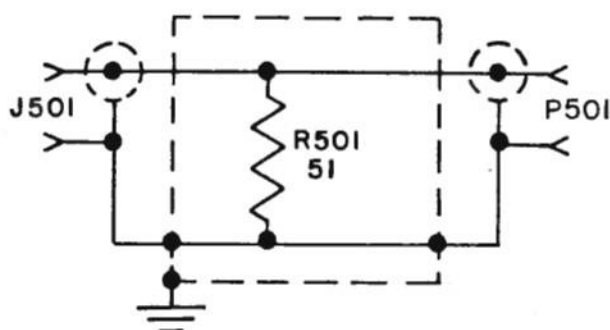
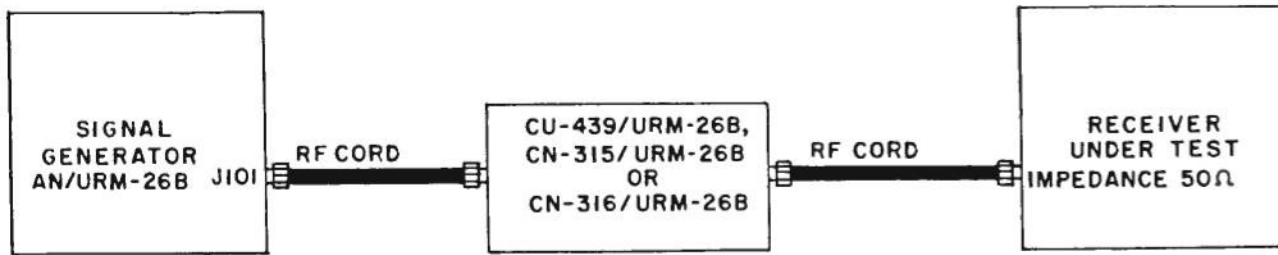

Figure 3-7. Schematic Diagram of Impedance Matching Network CU-439/URM-26B.
Figure 3-9. Method of Inserting Attenuators and Matching Network Between Signal Generator and Receiver.
a. The network may be seen packed in the cover of the generator case in figure 1-1. It consists of a 51 ohm resistor with appropriate UG-1094/U connectors at each end. (See figure 3-7.) In use it is connected as follows: Connector J501 (either end) mates with an end of any rf cord whose other end is plugged into RF OUTPUT jack J101. Connector J502 mates with any rf cord whose other end is plugged into receiver input (see figure 3-9). The dial reading will be approximately correct in microvolts. The rf output calibration will be inaccurate if the impedance matching network is used with receivers whose input impedance is well below 500 ohms; however, where it is difficult to obtain a shunt matching resistor as indicated in paragraph 3-9d, the impedance matching network can be used for approximate readings with receiver inputs as low as 200 ohms.
reading on the dial (20 db loss) the Fixed Attenuator CN-316/URM-26B is introduced between the output of the signal generator and the input of the receiver (see figure 3-9). Where the input of the receiver is 50 ohms (matching the output of the signal generator), simply divide the apparent reading on the RF OUTPUT dial by the factor of TEN.
a. RECEIVER IMPEDANCE AT 50 OHMS. – Where it is desired to cut the RF OUTPUT value exactly in half (6 db loss) the Fixed Attenuator CN-315/URM-26B is introduced between the output of the signal generator and the input of the receiver as shown in figure 3-9. (The method of inserting the fixed attenuator shown in figure 3-9 may be used for either the 2:1 unit or the 10:1 unit.) The schematic diagram of Fixed Attenuator CN-315/URM-26B may be found at the bottom of the main schematic diagram, figure 6-16. Where the input of the receiver is 50 ohms (matching the output of the signal generator), simply divide the apparent reading on the RF OUTPUT dial by the factor of TWO.